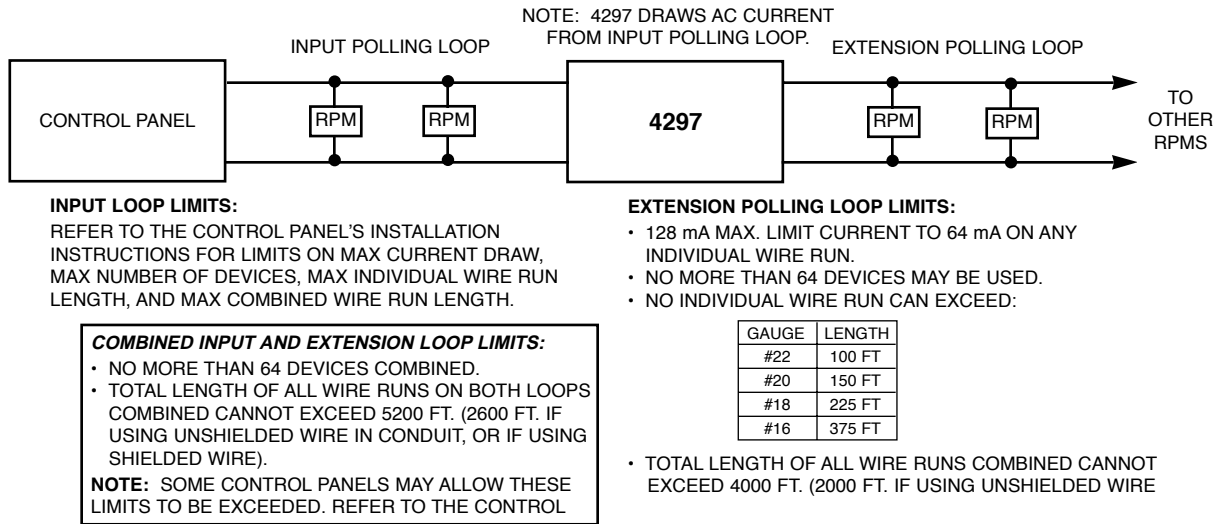

Figure 4. Polling Loop Connections Using One 4297 Module
Make the connections shown in Figure 4 when only one 4297 module is used. Make sure that the wire run length limits indicated in Figure 4 are not exceeded.
- * If an intercom system is being used, keep the polling loop wiring as far from the intercom wiring as possible (minimum 6 inches). If this spacing cannot be achieved, use shielded wire. Note that use of shielded wire reduces the maximum permissible polling loop wire run length, as indicated in Figures 4 and 5.
Miscellaneous: Refer to Figures 4, 5 for limits on polling loop wire run length. The extension loop is power limited.